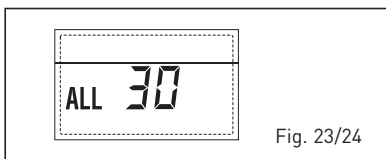

Fig. 23/24
- ANOMALIE SONDE REFOULEMENT CASCADE "ALL 31" (fig. 23/25)